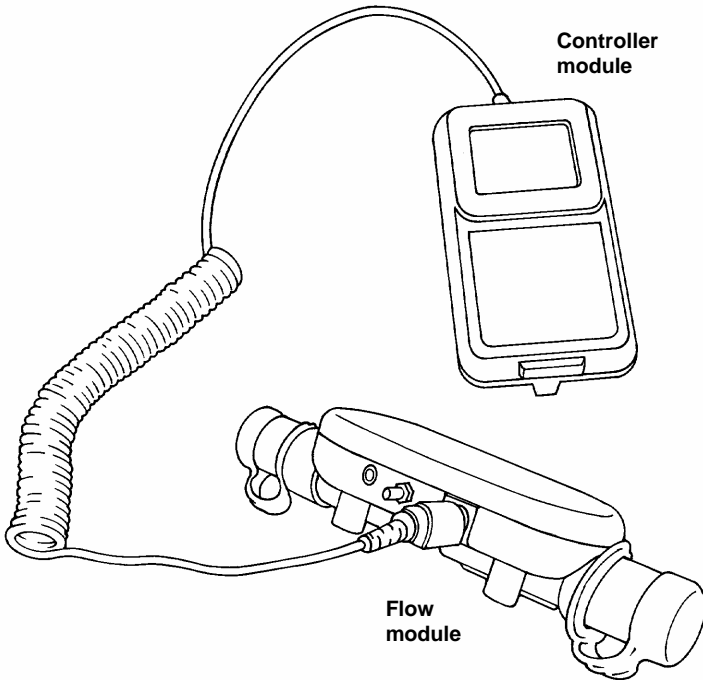

Figure 3. Connecting the Controller Module to a Flow Module
1. Connect the controller module to a flow module (**Figure 3**).